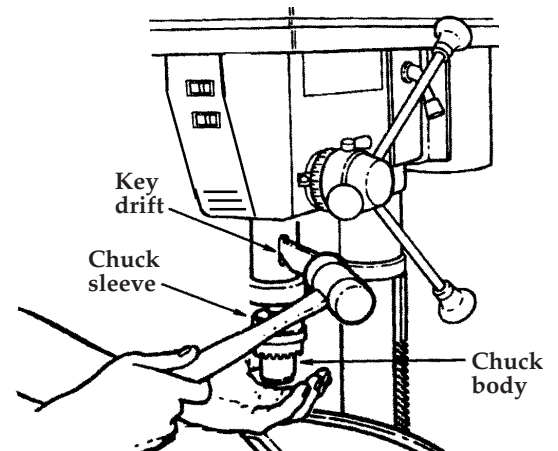

FIGURE 17
**NOTE:** Place one hand below the chuck to catch it when it falls out. (Fig.17).